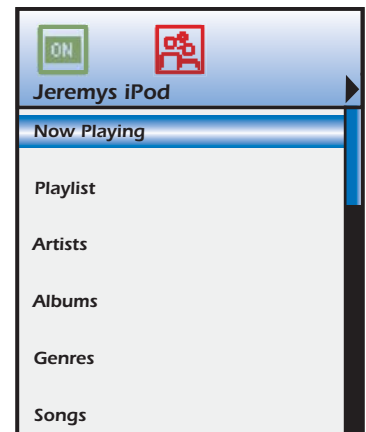

Figure 42
2. Press and Hold the **Click Button** for longer than 2 seconds. All zones will turn ON to the selected source, unless "This Zone Ignores Other Zone Initiations" is selected under **Zone Setup/Whole House/Mute** in **EZ-Tools** for a given zone. If selected, that zone will ignore the Party Mode Command and will continue in its current state (OFF or playing a different source). The LCD on all Party MODE Keypads will display the selected Source and the Party Mode Icon. (**Figure 42**) If an iPod is selected the LCD will also display the iPod Main Menu. If an external source is selected, the Virtual Buttons are displayed.